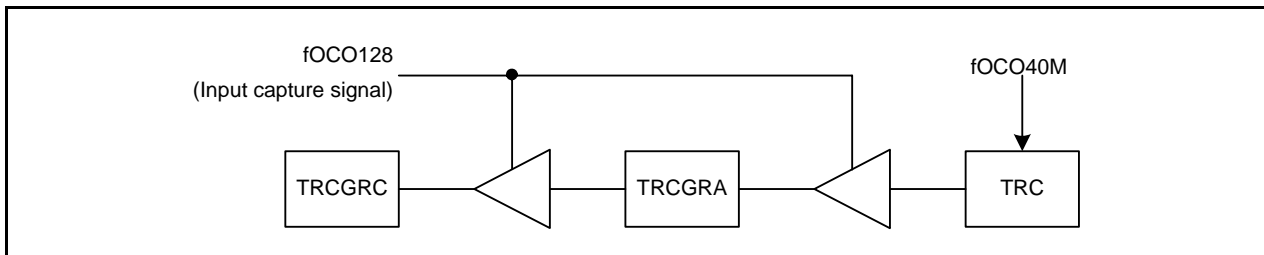
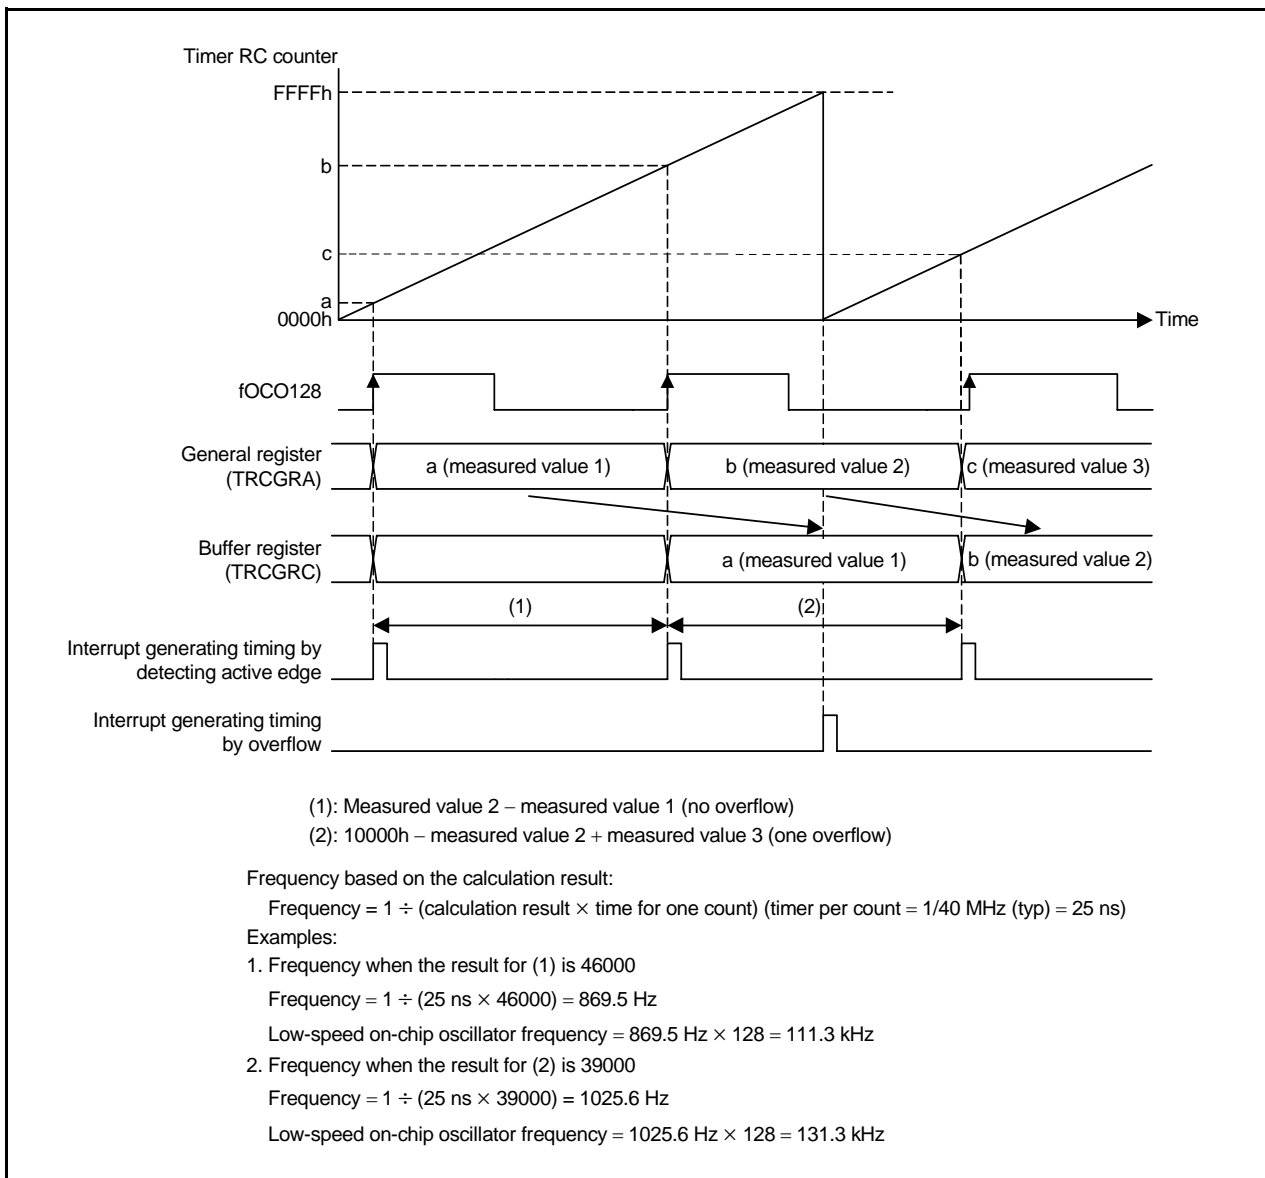

Figure 3.1 Block Diagram
Figure 3.2 Timing Diagram
- Refer to Figure 3.2 for the formula.
Figure 3.1 shows a Block Diagram. Figure 3.2 shows a Timing Diagram.